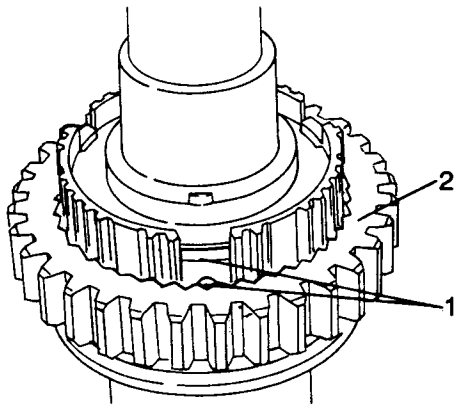

Fig H1.150
- (5) Refer to Fig H1.150. House the balls (1) in the ends of the springs, and press them inwards one after another and hold them manually or push the sliding blocks downwards until the balls are retained by the outer body (2).
- (6) Lift up the outer body (2) until the balls remain housed in the grooves of the teeth of the outer body.
- (7) Finally, fit the two synchro cones and check correct operation of the outer body on the inner body.